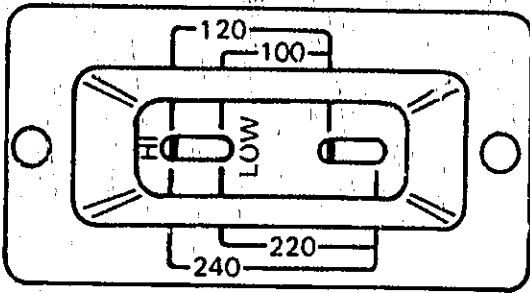

Figure 2-1. Line Voltage Selection Switches
- b. Stand instrument on rear panel legs. Through opening in bottom cover, position LINE voltage select switches for desired Vac input. (Figure 2-1 shows switches set for 120 Vac operation.)